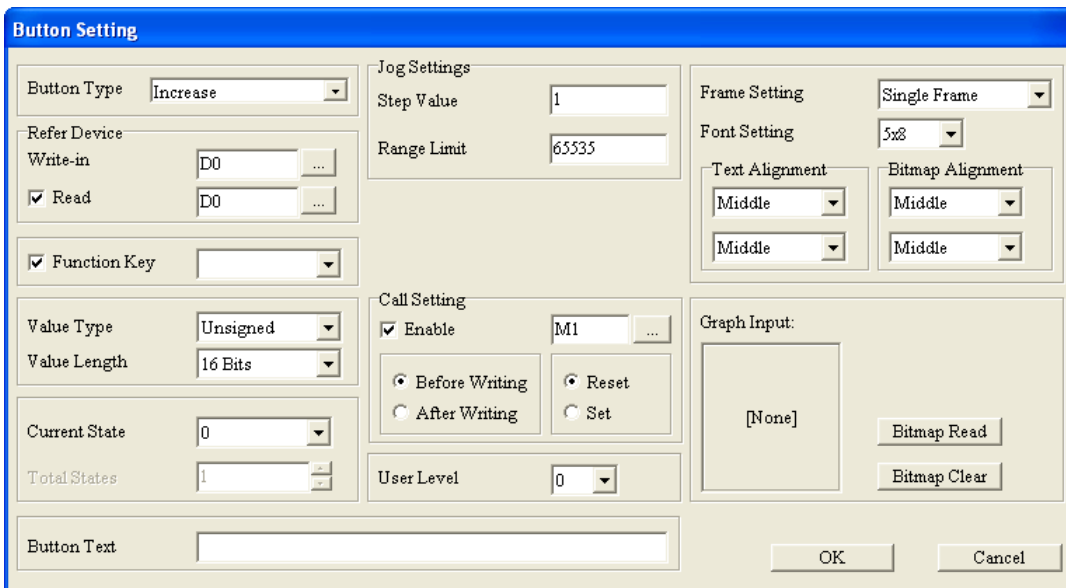
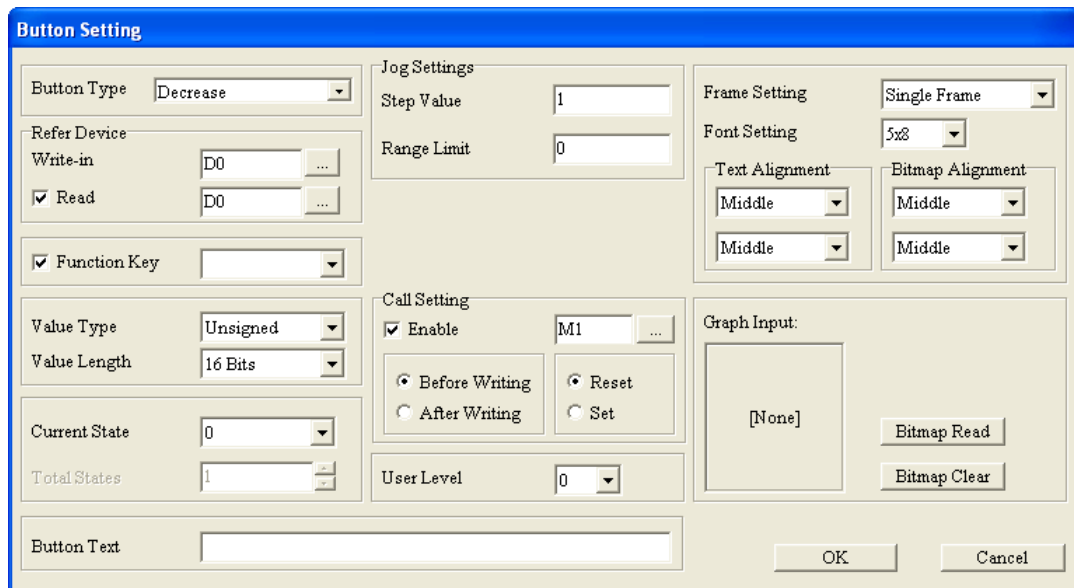

Figure 4-68 Button Setting window
Figure 4-69 Button Setting window
- If **Increase** is selected, the **Button Setting** window will be as shown in Figure 4-68. If **Decrease** is selected, the **Button Setting** window will be as shown in Figure 4-69